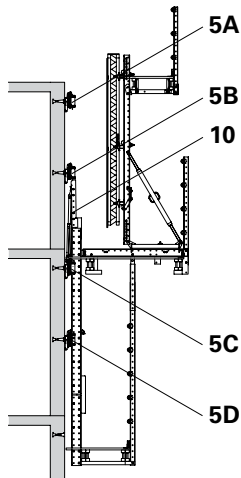

Fig. 35: Overview of the Climbing Shoe RCS C
- After reaching the next climbing shoe (5A or 5B), insert the Climbing Rail Extension 125. For an overview of the climbing shoe, see Fig. 35.